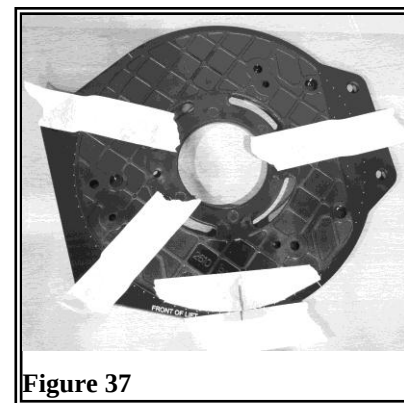

Figure 37
5. Secure the router sub base to the blank plate with masking tape or clamp in this position. (Figure 37)